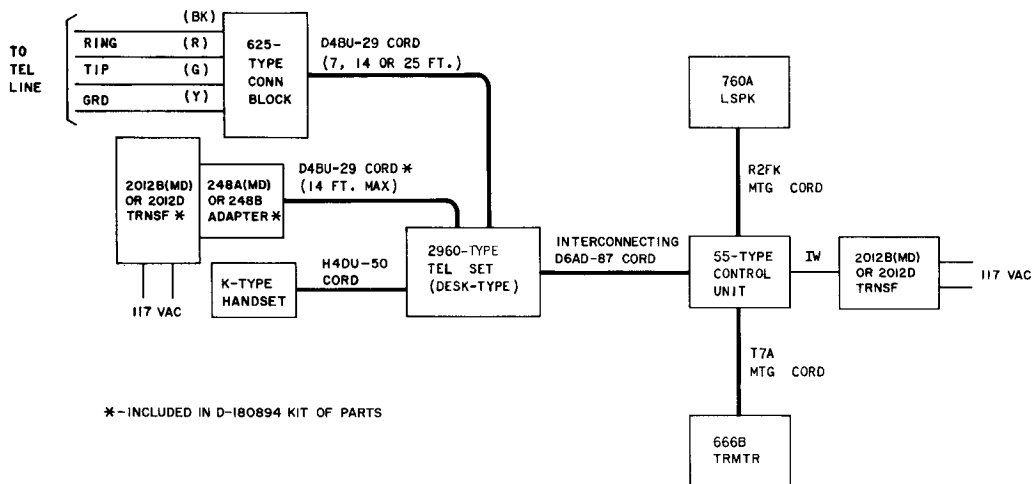

Fig. 17—Block Diagram—2960A01M (MD) Telephone Set With 3B (MD) Speakerphone
**Note 1:** Strap terminals 20 and 22 (55A\*) or 4 and 5 (55B). (See Fig. 17 for block diagram of interface.)